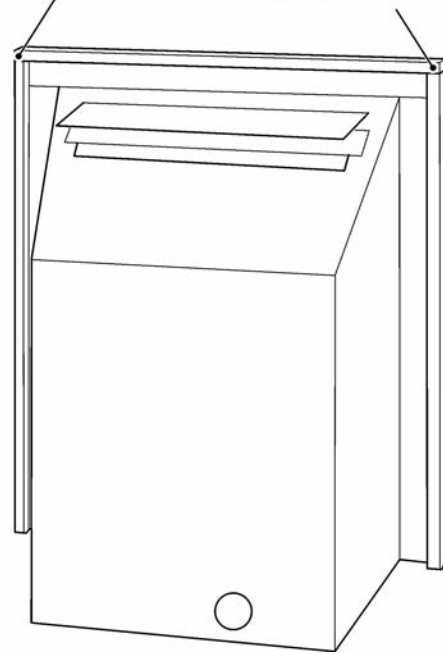

Figure 15. Fitting the foam seal
6. There is a length of self adhesive foam seal supplied with the fire. This will need to be fitted to the outer rear edges of the side and top flanges of the hotbox. Cut a 485mm length of foam seal. Be careful not to stretch the seal when measuring. Remove the protective backing from the foam seal and fit this to the rear of the top flange (See figure 15). Cut two 580mm lengths. Fit these to the rear outer edges of the side flanges. Ensure that there is no gap between the foam seals where they meet at the top flange (See figure 15).